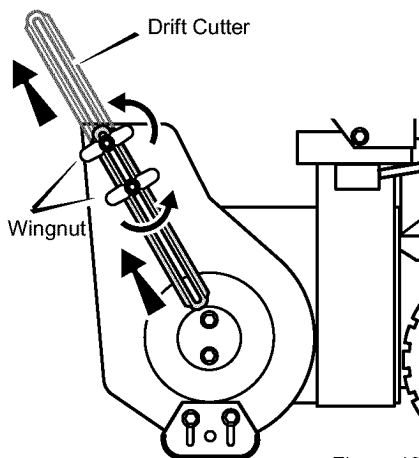

Figure 12
1. Loosen the **wingnuts** that secure the **drift cutters** to the auger housing. See Figure 12.